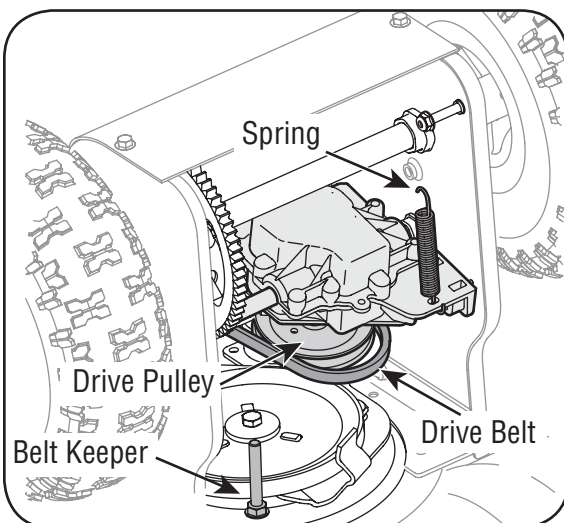

Figure 13
1. Tip the snow thrower up and forward so that it rests on the auger housing. Remove the belt keeper as shown in Figure 13. Return the snow thrower to its upright position to complete the following steps.
2. Remove the spring that connects the transmission to a bolt on the engine frame. See Figure 13.